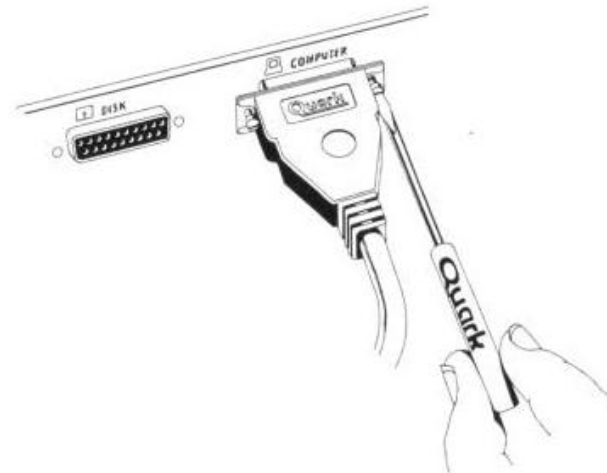

Figure 2-9. Connecting Quark Cable to QC Hard Disk
12. Connect the other end of the Quark cable to the nineteen-pin "D"-shaped socket labeled "Computer" on the back of the QC hard disk, and tighten the screws as illustrated in Figure 2-9.
17. Connect the other end of the Quark cable to the nineteen-pin "D"-shaped socket labeled "Computer" on the back of the QC hard disk, and tighten the screws as illustrated in Figure 2-9.